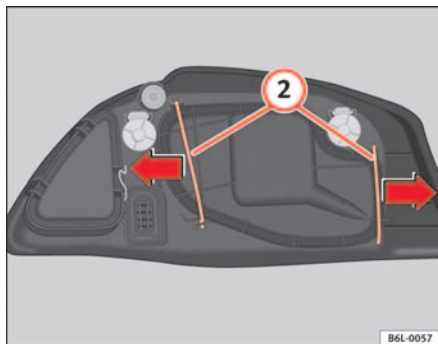

Fig. 144 Main beam lamp
- Remove the loops ② ⇒ fig. 144 outwards in the direction of the arrow and remove the cover.
- Fit the plastic cover and replace the loops ② ⇒ fig. 144.